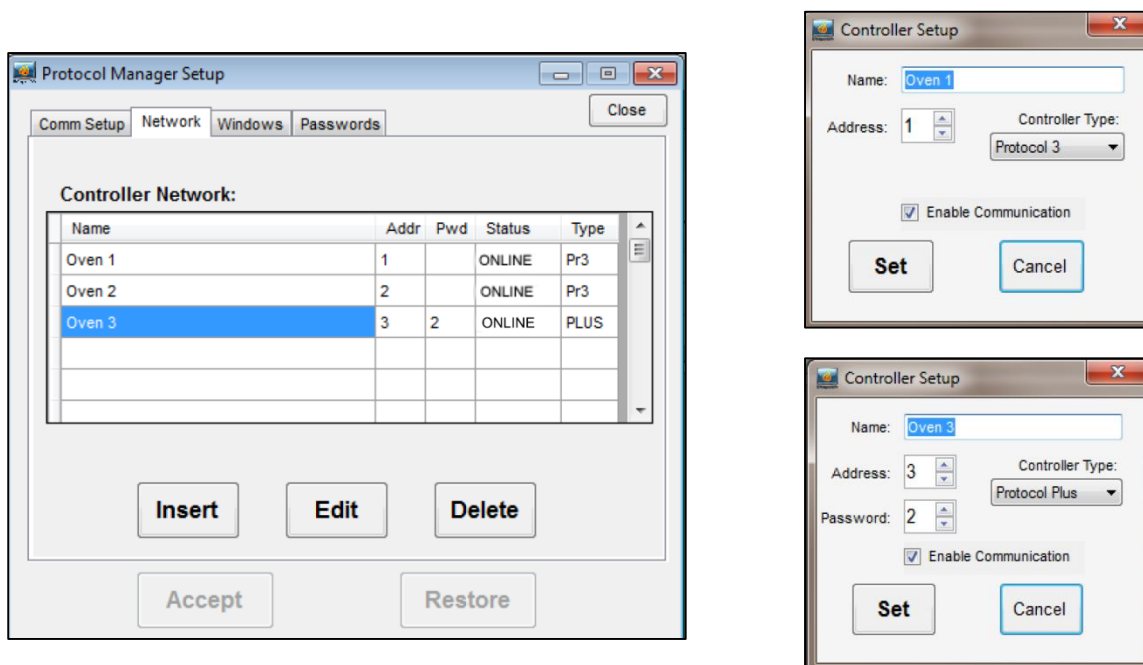

Figure 38. Check network controller parameters.
3. Click on **Network** and highlight the desired oven. Click **Edit**. Make sure addresses on the Protocol Manager screens match the addresses on each controller (Figure 38). For Protocol Plus controllers, ensure the password is set to the default (Level 2). **Enable Communication** should be enabled. Click **Set** when complete to save changes (if any).